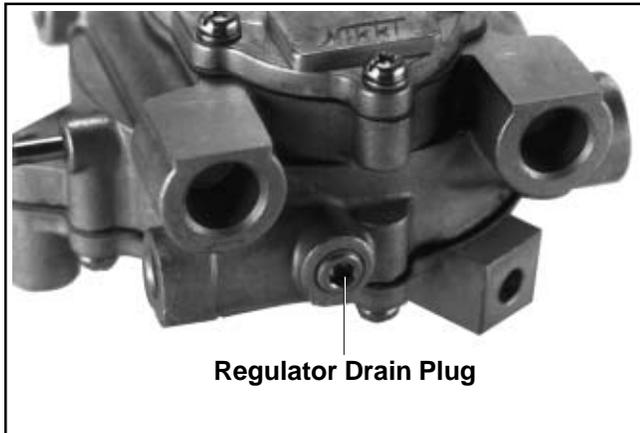

Figure 5A-23. Regulator Drain Plug (some models).
The regulator is preset at the factory and generally requires no further adjustment. No periodic service is required. Over time, depending on fuel quality, operating environment, and system performance, fuel deposits can accumulate inside the regulator. Those regulators containing a drain plug (Nikki) should be drained every **500 hours** to remove any accumulated deposits. See Figure 5A-23.
3. Remove the 1/8" pipe plug from bottom of regulator and drain any accumulated deposits. See Figure 5A-23.